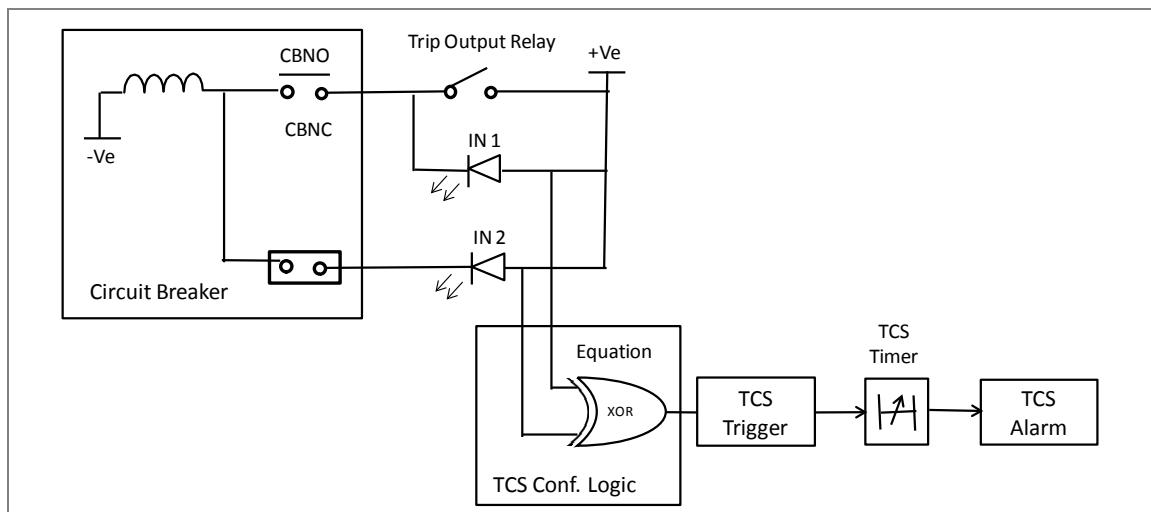

Figure 2: Logic Diagram for Pole Operated Trip Circuit Supervision
The figure 2 represents the logic for Gang operated & Pole operated Trip Circuit Supervision using CBNO & CBNC both status, It monitor continuity of trip circuit through either normally open (NO) or normally close (NC) contact of CB connected to digital input assigned to TCS Trigger. If any discontinuity is observed, then the BCU generates TCS Alarm after a set time delay an Alarm message is displayed on LCD display and Event is stored in the Event Record.